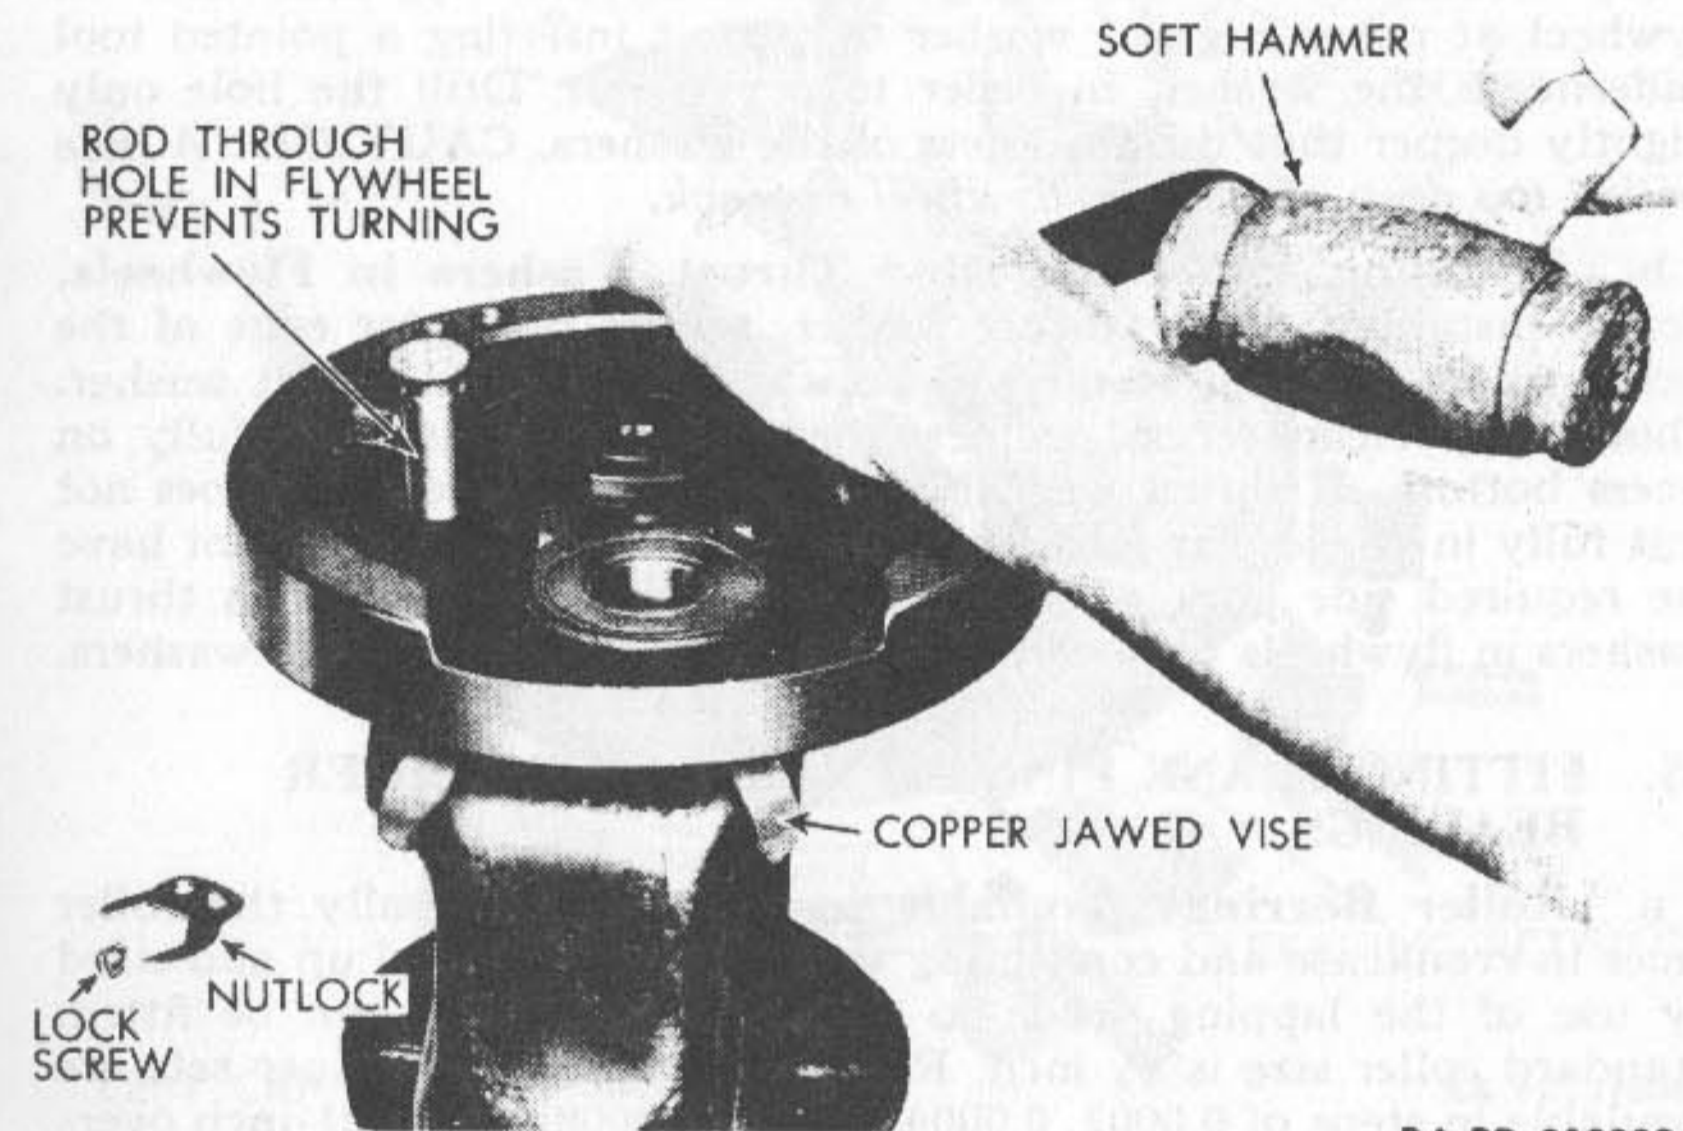

Figure 35—Removing Mainshaft Nut
d. **Remove Mainshafts.** Remove mainshaft locks and nuts. Secure mainshaft in vise with copper jaws and after screw and nut lock is removed, remove nut from mainshaft (fig. 35). Holding each flywheel, drift shaft from wheel, using copper or lead hammer.
(1) Left side (sprocket side) flywheel is quickly identified by timing mark on outside rim face and keyway for crank pin. Install sprocket shaft and tighten nut very tight, striking wrench with a hammer (fig. 35). Install nut lock and tighten retaining screw.
(2) Right side (gear shaft) flywheel is quickly identified by oil feed hole drilled to connect crank pin and gear shaft holes. Install gear shaft, nut and lock as in (1) above. After gear shaft is installed,